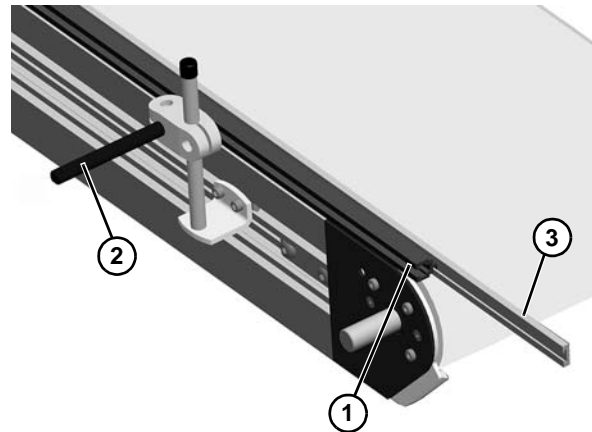

Figure 36
2. Install extruded guide (Figure 36, item 1) onto end of mounting guide shaft (Figure 36, item 2).
3. Install guiding (Figure 36, item 3) onto extruded guide (Figure 36, item 1).